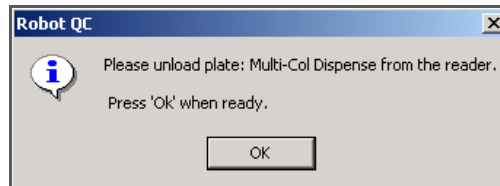

Figure 96 Unload Multi-Col Dispense Plate Prompt
- When prompted (Figure 96), unload the Multi-Col Dispense plate. Click **OK**. Discard the plate according to laboratory guidelines.